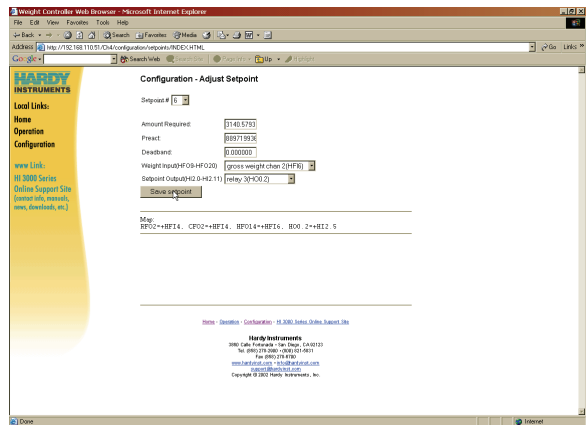

FIG. 3-22 ADJUST SETPOINT PAGE/SAVING SETPOINT ENTRIES
Step 9. Click on the Save Setpoint button to save the entries. (See Fig. 3-22)